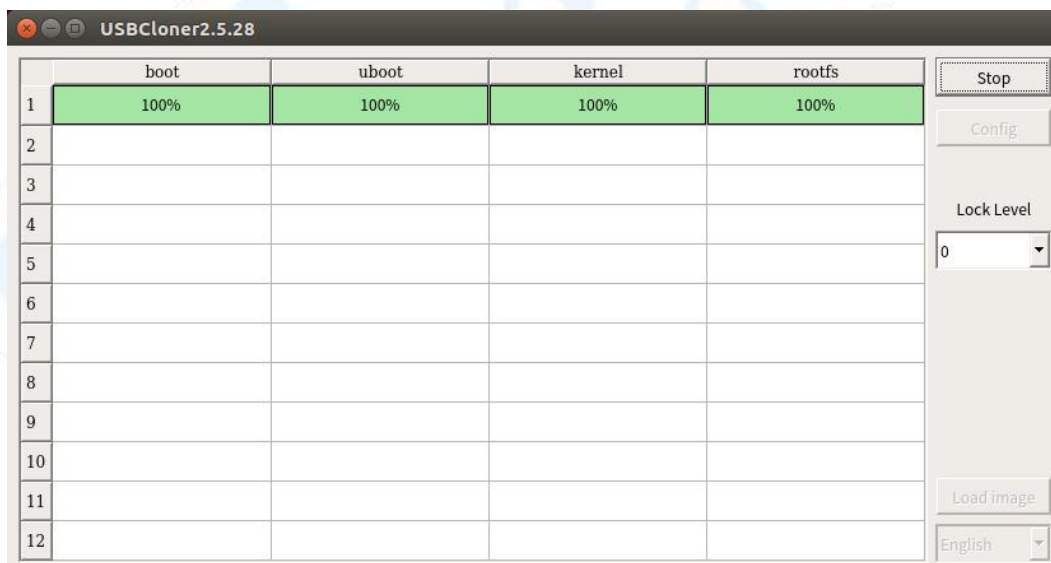

Figure 4-4
- 8、Wait for the burning tool to complete the burning to 100%, as shown in Figure 4-4.
- 7、Wait for the burning tool to burn to 100%, as shown in Figure 4-4
- 7、Wait for the burning tool to burn to 100%, as shown in Figure 4-4.